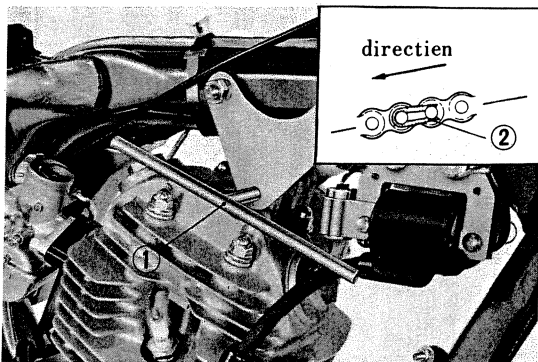

Fig. 29 ① T-screwdriver ② Retaining clip and master link
- 1) To facilitate installation, line up eye on the cylinder head with holes in the top hanger bracket on the frame. Install a T-screwdriver with the end through these holes. The hanger bolts can then be installed easily. (Fig. 29)